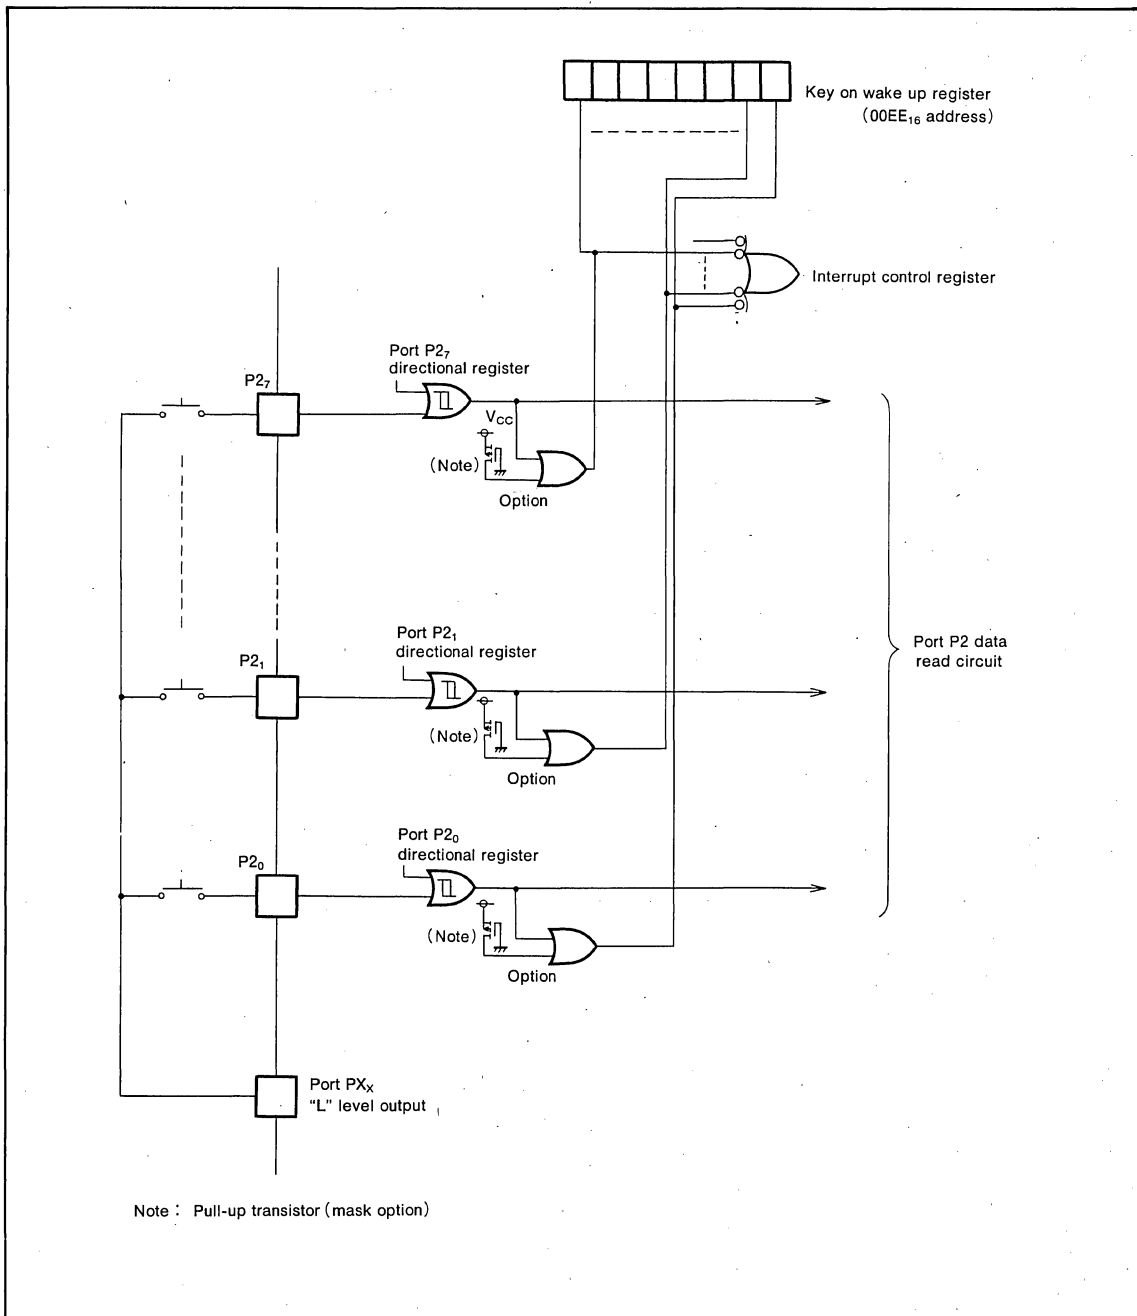

Fig. 19 Block diagram of port P2 and example of wired at used key on wake up
As shown in Figure 19, if the key matrix of active "L" to input port P2 is constructed, the microcomputer is returned to normal operating state by the key push. Refer to the section of interrupt how to use the key on wake up function. In order to enter the power down state generated by the STP or WIT instruction at the interrupt disable flag (I) is "0" and  $IC_2$  is "1", the input designated as key on wake up by option in port P2 must be all "H".